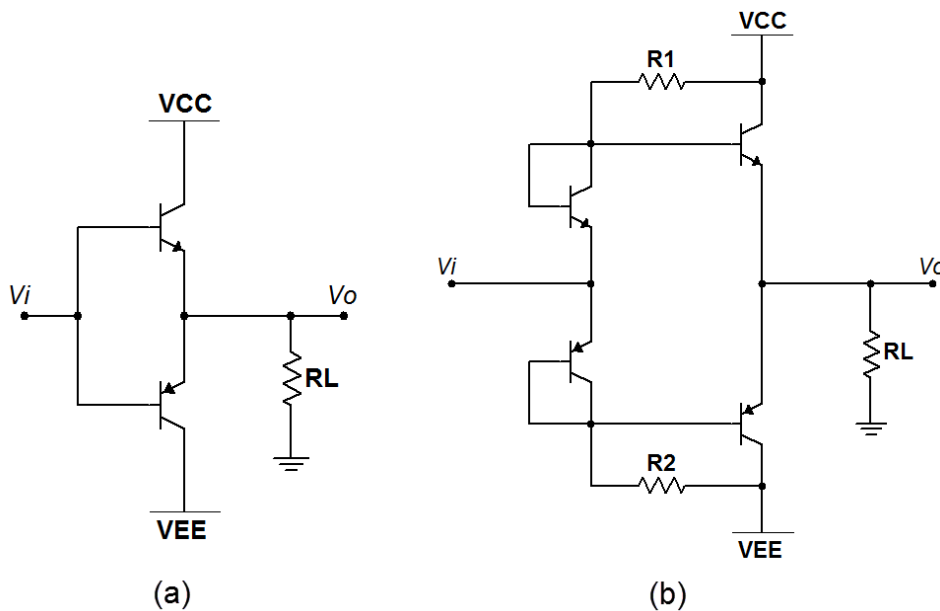

Figure 3.11: Circuit for Problem 3.10, with (a) conceptual circuit and (b) practical circuit.
Figure 3.11 shows a *Class B* amplifier, also known as a *push-pull* output stage. Figure 3.11(a) shows a conceptual circuit that suffers from *cross-over distortion*, and Figure 3.11(b) shows a practical version that eliminates the distortion.
1. Plot $v_o(t)$ of the conceptual circuit of Figure 3.11(a) for an input amplitude of 5 volts; repeat for an input amplitude of 1 volt. In each case determine the peak-to-peak voltage of $v_o(t)$.
2. Plot $v_o(t)$ of the practical circuit of Figure 3.11(b) for an input amplitude of 5 volts; repeat for an input amplitude of 1 volt. In each case determine the peak-to-peak voltage of $v_o(t)$.
Enter the circuit of Figure 3.11(a) using the 2N3904G and 2N3906G transistor models. Drive the input with Simulate → Instruments → Function Generator and monitor the input and output with the Simulate → Instruments → Oscilloscope.
1. Plot $v_o(t)$ of the conceptual circuit of Figure 3.11(a) for an input amplitude of 5 volts; repeat for an input amplitude of 1 volt. In each case take cursor measurements to determine the peak-to-peak voltage of $v_o(t)$.
2. Modify the circuit to match that of Figure 3.11(b). Plot $v_o(t)$ for an input amplitude of 5 volts; repeat for an input amplitude of 1 volt. In each case determine the peak-to-peak voltage of $v_o(t)$.
Build the circuit of Figure 3.11(a) using the 2N3904 and 2N3906 transistors. Drive the input with A00 and the NI ELVISmx Function Generator. Monitor the input and output signals with the NI ELVISmx Oscilloscope.
1. Plot $v_o(t)$ of the conceptual circuit of Figure 3.11(a) for an input amplitude of 5 volts; repeat for an input amplitude of 1 volt. In each read the oscilloscope peak-to-peak meter under the main display to measure the peak-to-peak voltage of $v_o(t)$.